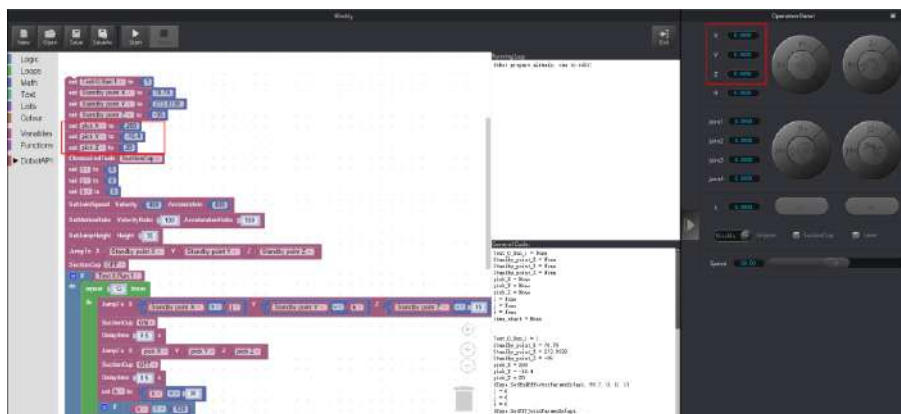

Figure 4.4 Modify the placing position
- Unselect **SuctionCup** to put down blocks on the conveyor belt. The operation panel on the DobotStudio will record the values of X, Y, Z axes automatically, and write the values of the X, Y, Z axes in the picking demo as shown in Figure 4.4.